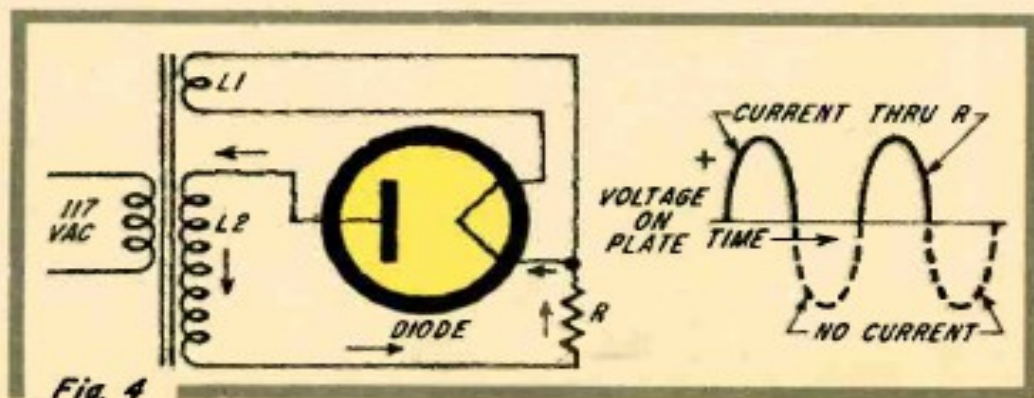

Fig. 4
**AC to DC.** "So what good is a diode?" you ask. For one thing, a diode is a *rectifier* that can change zig-zagging alternating current (AC) into pulsating, one-way, direct current (DC). Look at Fig. 4. Transformer winding L1 furnishes current to heat the filament of the diode. Winding L2 connects between the plate and filament through the load resistor. The AC induced in this winding makes the plate first positive and then negative sixty times a second with regard to the filament. When the plate is positive, it attracts electrons from the filament and current flows in the direction indicated by the arrow. But what happens when the plate is negative? Not a thing! A negatively-charged plate is great big nothing to electrons, and they stay home. In other words, our diode is an electronic check-valve that permits current to flow freely through it in one direction but stubbornly bars movement in the opposite direction. No wonder the British call a vacuum tube a "valve"!
Fig. 4 shows how pulses of current through the load resistor correspond to excursions of the AC voltage applied to the plate. Now we see why this arrangement is called a *half-wave rectifier*. The tube loafs while its plate is negative, and we get no current output during that half of the AC cycle. We can fix that! We just put another plate in our diode, making it a *duo-diode*, and connect the plates to the ends of a center-tapped transformer winding as shown in Fig. 5. The resulting *full-wave rectifier* puts out current during practically the whole AC cycle. When one plate is negative, the other is necessarily positive, and current is kept flowing through one half or the other of the transformer winding as indicated by the arrows.
The graphs of Fig. 4 and 5 show that the amount of current flowing at any instant depends on the plate voltage at that time. Why don't all the electrons the filament is capable of emitting flock to the plate the instant it becomes slightly positive? The answer is *space charge*. While some of the emitted electrons are attracted to the slightly-positive plate, others just stand around, doing nothing, in the space between the filament and the plate. And electric charge exerts force according to its distance. Therefore, electrons trying to escape from the filament hear the negative "Stay put!" of the space charge much louder than the positive "Come on!" of the more distant plate. Increasing the plate voltage gradually cuts down this distance advantage of the space charge, and more electrons are drawn to the plate. A forthright way to reduce the current-limiting effect of the space charge is simply to move the plate closer to the filament so that there is less room for the space charge to exist!